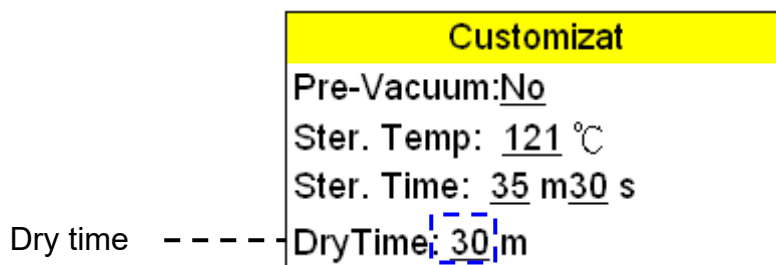

Figure 87
- G. Press  or  button to move the cursor as shown in Figure 87
- Press  button to store dry time parameter as shown in Figure 87.